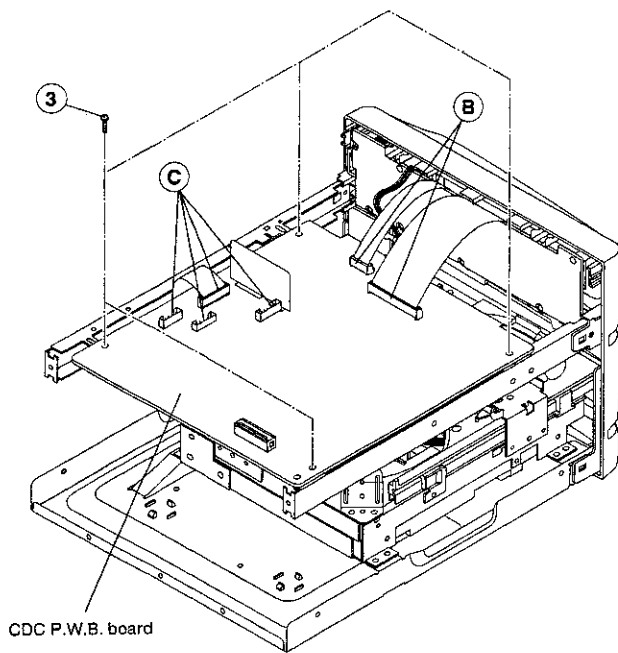

Fig. 16
(1) Remove 4 screws ②: 2 from the left and right brackets and 2 from the bottom chassis.
(2) Release 1 connector ③.
3. **Removal of CDC P.W.B. Board (Fig. 16)**